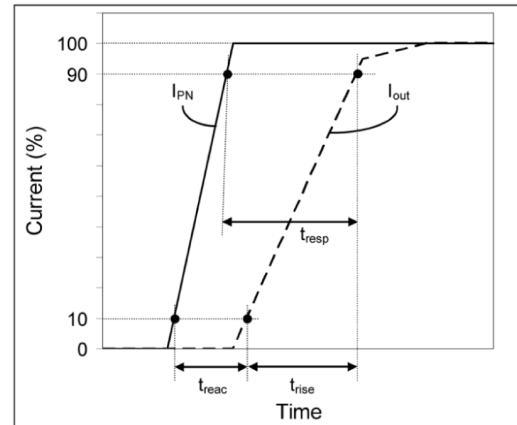

Fig. 2: Definition of reaction time (t_{reac}), rise time (t_{rise}) and response time (t_{resp}).
1) $I_P = I_{PN}$ with di/dt of 100 A/ μs . See Fig. 2.